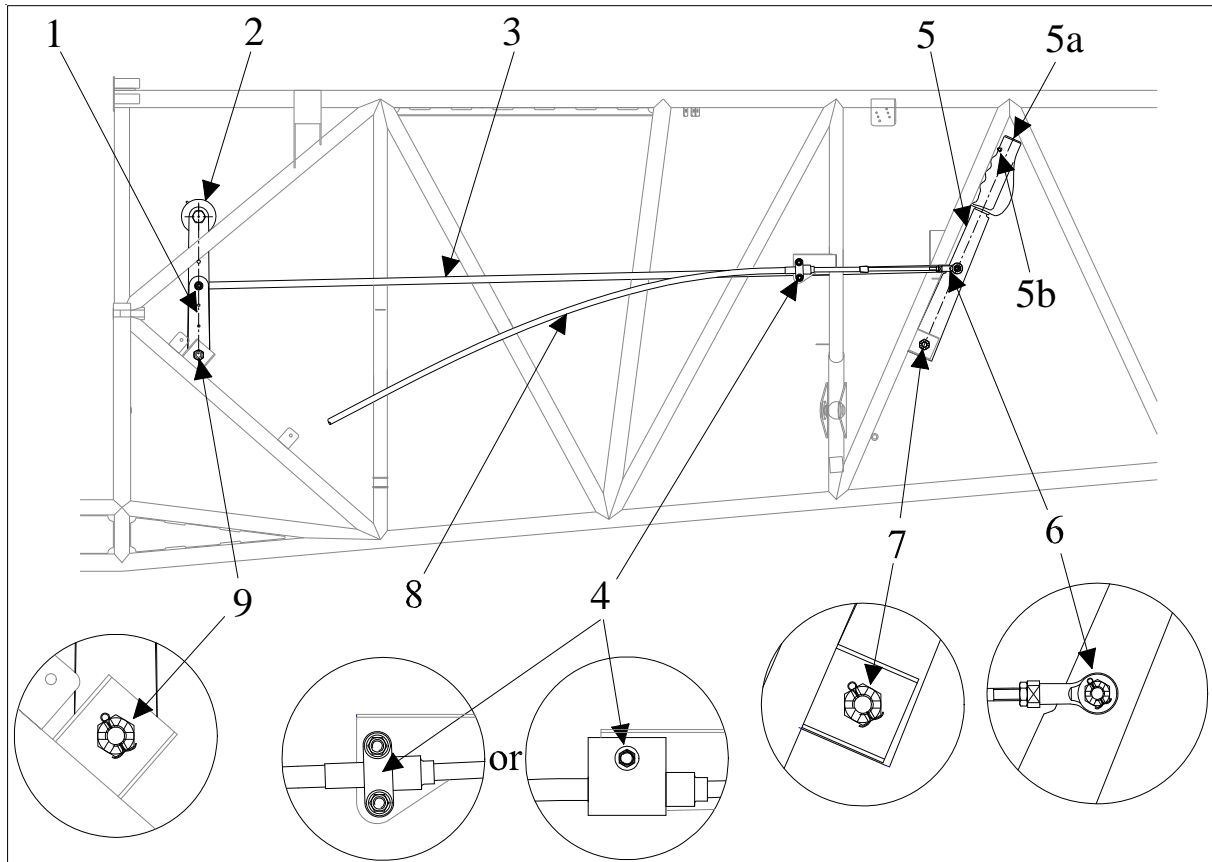
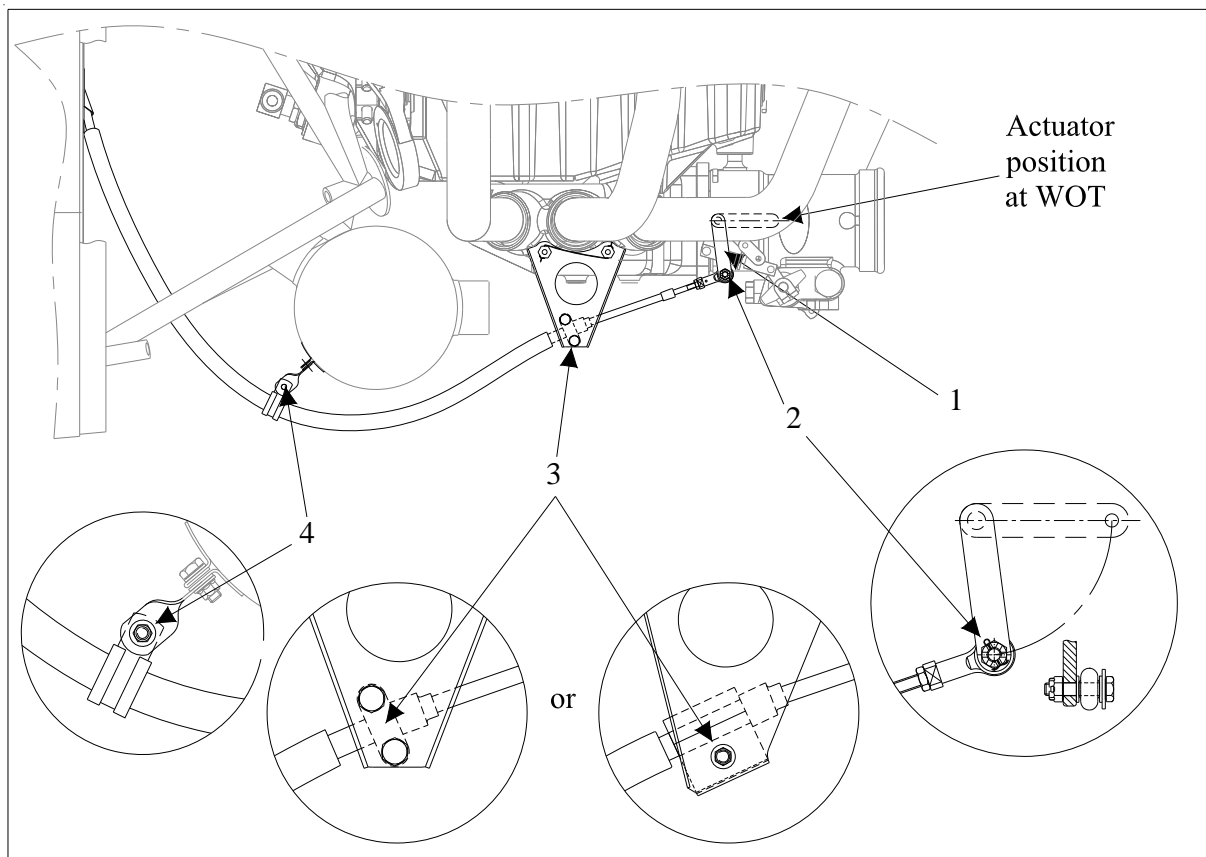

Figure 3
Figure 4
- 13 Remove cotter pin, castle nut, washers and bolt and remove the rod end (6, Figure 3) from the throttle control lever (5).
- 16 Remove clamp block (4) attachment bolt(s).
- 17 Remove clamp block from the throttle control cable (8).
Refer to Figure 3 and Figure 4.
- 7 Install the cushioned clamp (4, Figure 4).
- 8 Install the throttle control cable to the respective bracket by installing the clamp block (3, Figure 4) to the conduit fitting of the control cable.
- 9 Push the throttle actuator (1, Figure 4) to the full idle travel stop position.
- 11 Install rod end to throttle actuator with bolt, washers, castle nut and cotter pin (2, Figure 4). Tighten the castle nut slightly. Ensure movability of actuator.
- 14 Install the rod end to the throttle control lever with bolt, washers, castle nut and cotter pin (3, Figure 3). Tighten the castle nut slightly.
- 4 Remove cotter pin, castle nut, washers and bolt (6, figure 3) and the throttle control linkage (3) from the throttle control lever (5).
- 7 Disconnect throttle control lever attachment by removing cotter pin, castle nut, washers and bolt (7). Remove throttle control lever.
- 1 Thread the intercom switch (5b, Figure 3) and the smoke switch (5a) wiring through the throttle control lever (5) before mounting the lever to the attachment bracket.
- 2 Tighten the throttle control lever castle nut (7) slightly. Ensure movability of control levers (1 & 5).
- 1 Move the rear throttle control lever (5, Figure 3) in idle position parallel to the adjoining fuselage structure steel tube (as shown in figure 3).
- 2 Check throttle lever (1, Figure 4) of the fuel injector servo reached travel stop for closed throttle.
- 4 If necessary adjust rod ends (2, Figure 4; 6, Figure 3) to ensure correct over-travel by the following steps:
- a Remove cotter pin, castle nut, washers and bolt of the rod end from throttle lever (1, Figure 4) and rear throttle control lever (6, Figure 3).
- 4 Disconnect the throttle control linkage (3, Figure 3) from the front throttle control lever (1).
- 5 Disconnect the throttle control handle (2) from the front throttle control lever (1).
- 6 Disconnect throttle control lever attachment by removing cotter pin, castle nut, washers and bolt (9) and remove throttle control lever.
- 7 Install in reverse sequence of removal. Tighten the throttle control lever castle nut (9) slightly. Ensure movability of levers.